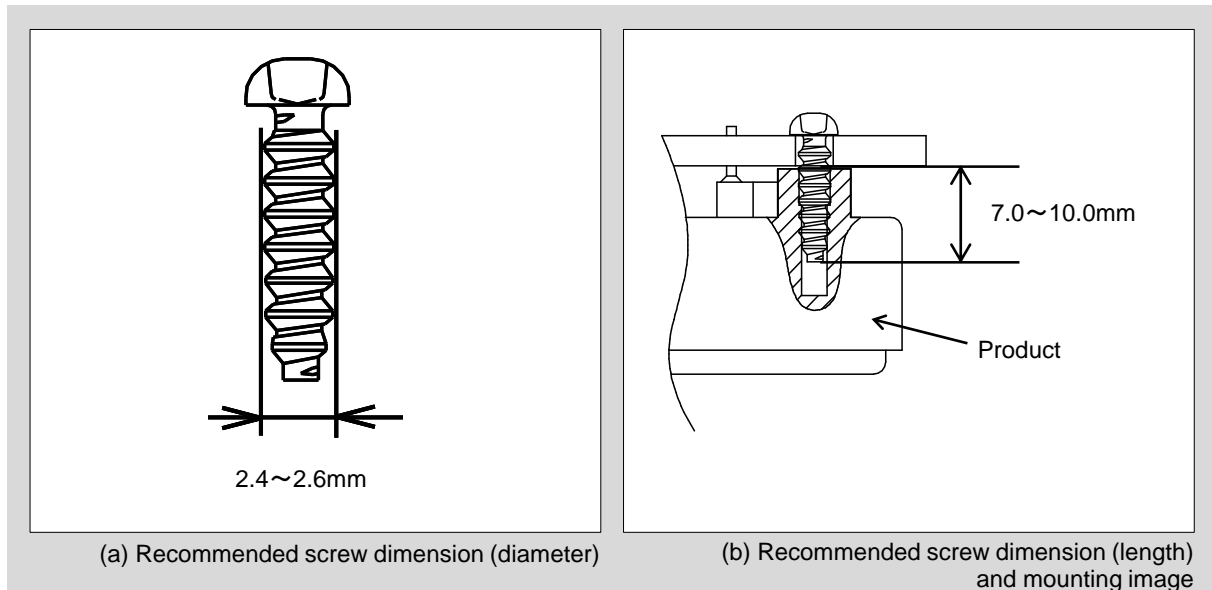

Fig.9 Recommended screw dimensions and mounting image
4. As shown in Fig.9, use screws with a diameter of 2.4 to 2.6 mm and a length of 7.0 to 10.0 mm from the underside of the PCB.